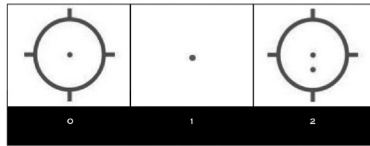

Fig. 1 XPS reticle options
The XPS3/XPS2 is offered with one of the following (3) reticle options (see fig. 1):
- 2- 65 minute ring with vertical and horizontal stadia and (2) 1 MOA aiming dots